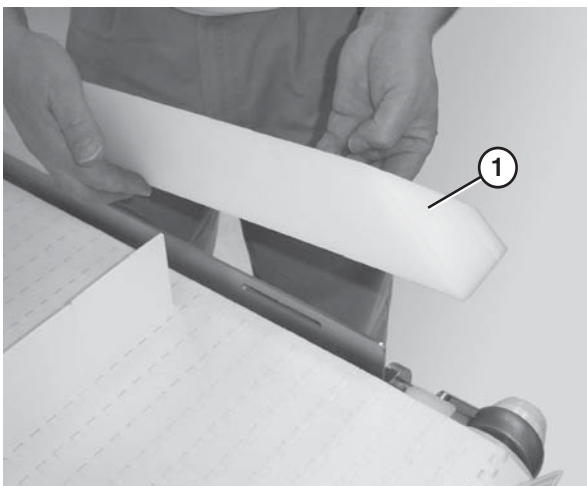

Figure 45
2. Remove the guide (Figure 45, item 1).